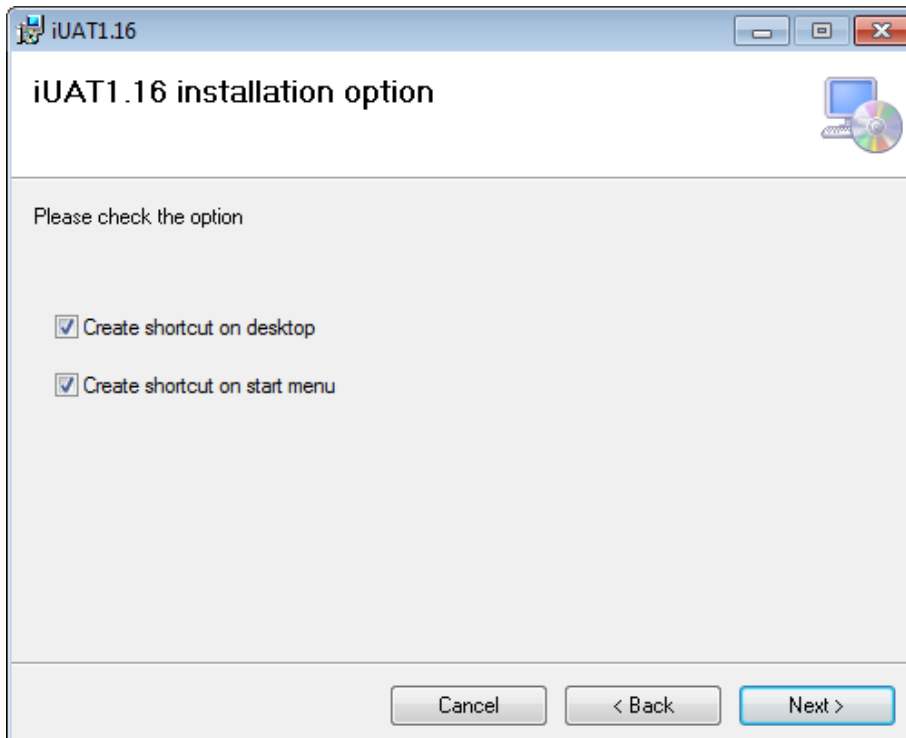

Figure 6: Installation option
7. You will be asked to select installation option (Figure 6). After selecting, click “Next” to proceed.